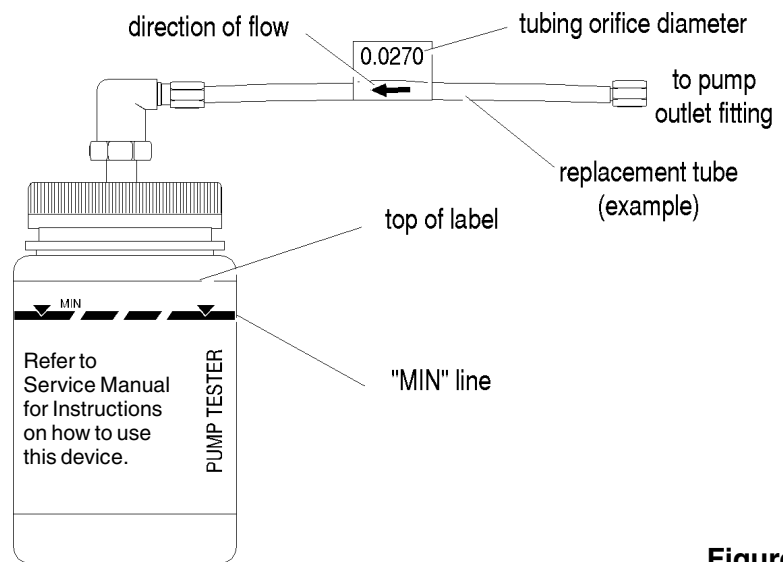

Figure 7
1. Disconnect the Teflon™ steam generator inlet tube (1) from the top of the steam generator (2) using a 3/8-inch wrench.
2. Connect the disconnected end of the steam generator inlet tube to the pump tester (3). **Do not cross thread the fittings. Do not overtighten.**
4. Be prepared to record the time it takes for the water level displayed on the pump tester to reach the top of the line marked MIN (see Figure 7). Activate the pump using the Control Box.
To install and test the pump tube replacement, follow these steps (see Chart A, Chart B, Chart C and Figures 7 and 8):
2. Using a 3/8-inch wrench disconnect the Teflon™ steam generator inlet tube (1) from the top of the steam generator (2). Disconnect the other end from the pump outlet fitting (3). Record the orifice diameter if available and discard the tube.
5. Thread the other end of the replacement tube (4) to the fitting (5) on the pump test bottle (6), **finger tight. Do not cross thread the fittings. Do not overtighten.**
7. Activate the pump using the control box and record the time it takes for the water level to reach the line marked MIN (see Figure 7).